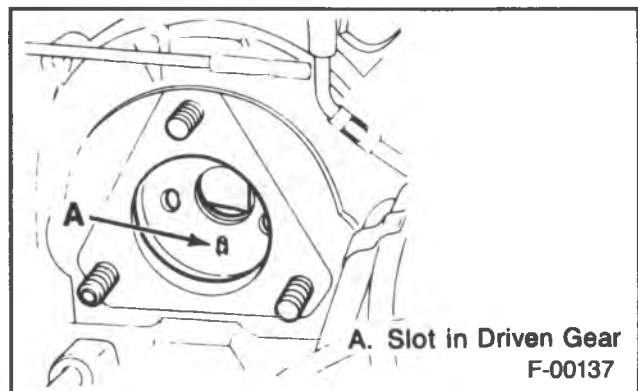

Figure 11 — Slot In Injector Pump
3. The slot in the injection pump gear should be in the vertical 6 o'clock position (figure 11). If not, remove J 33042 and rotate the engine crankshaft 360 degrees. The timing marks on the gears will be aligned.